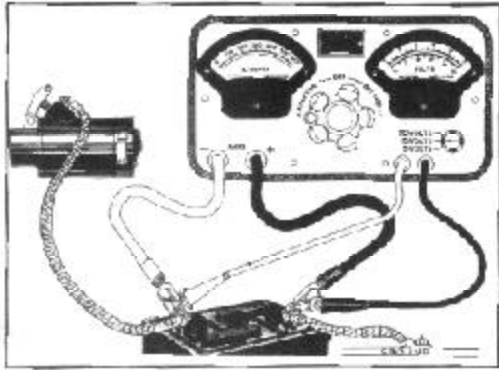

FIGURE 10
2. Turn the voltmeter "selector switch" to the 15 volt position and connect test leads, Figure 10.